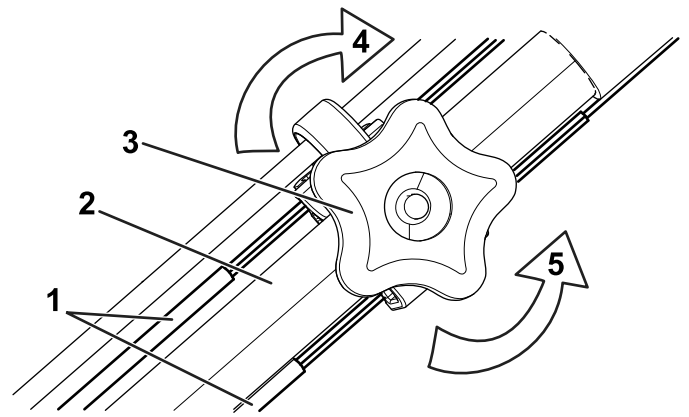

Figure 29
- Turn the adjustment knob counterclockwise to loosen the cable adjustment (Figure 29).
- Adjust the tension on the cables (Figure 29) by pulling both of them back or pushing them forward and then holding them in that position, maintaining equal lengths.